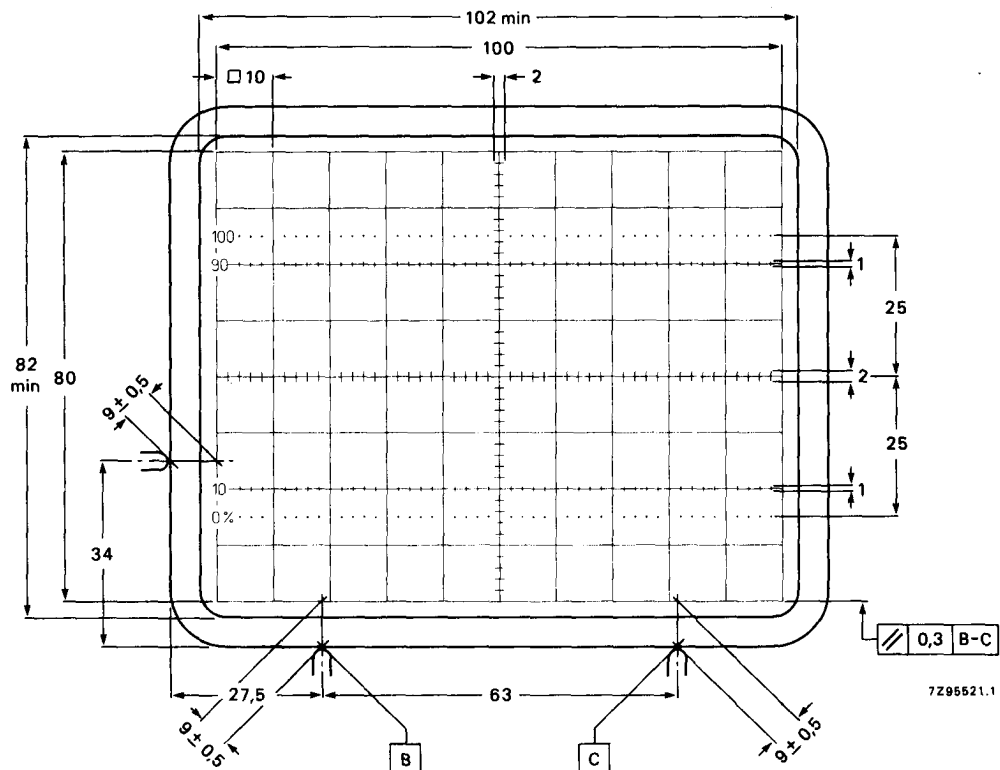

Fig. 4 Front view of tube with internal graticule, type 123.
Internal graticule	type 123; see Fig. 4 ←
The tube can be mounted in any position. It must not be supported by the socket and not by the base region alone. The reference points on adjoining edges of the faceplate (see Fig. 4) enable the tube to be mounted accurately in the front panel, thus providing optimum alignment of the internal graticule.
- (1) Dimensions of faceplate only. The complete assembly of faceplate and cone (frit seal included) will pass through an opening of 122 mm x 102 mm.
- (2) The coil is fixed to the envelope with resin and adhesive tape.
- (3) The length of the connecting leads of the rotation coil is min. 350 mm.
- (4) Reference points on faceplate for graticule alignment (see Fig. 4).
The internal graticule is aligned with the faceplate by using the faceplate reference points, see Fig. 4. See also note 1.
1. As the frit seal is visible through the faceplate, and not necessarily aligned with the internal graticule, application of an external passe-partout with open area of max. 102 mm x 82 mm is recommended. The internal graticule is aligned with the faceplate by using the faceplate reference points (see Fig. 4).